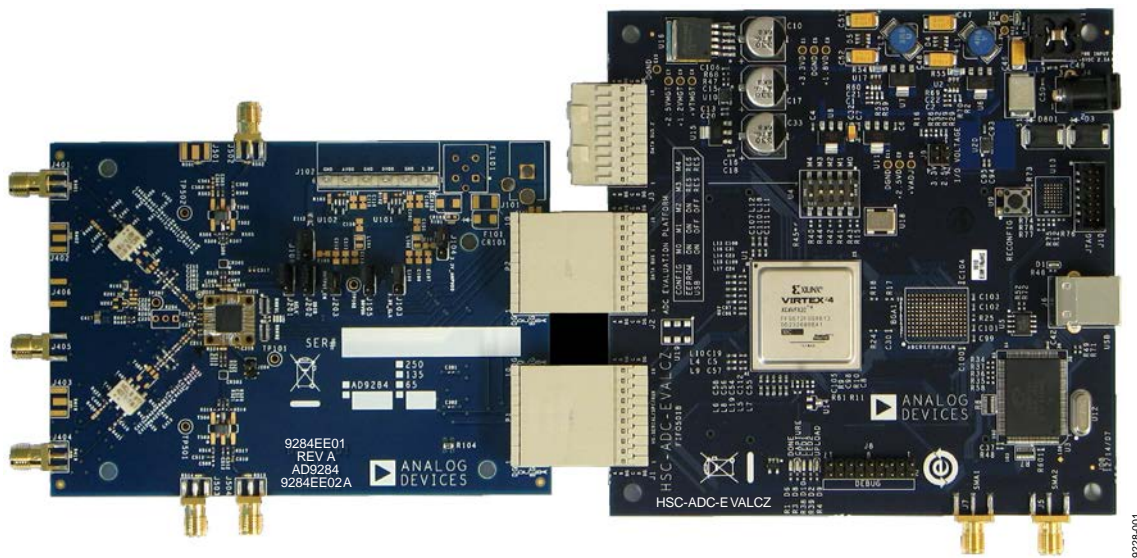
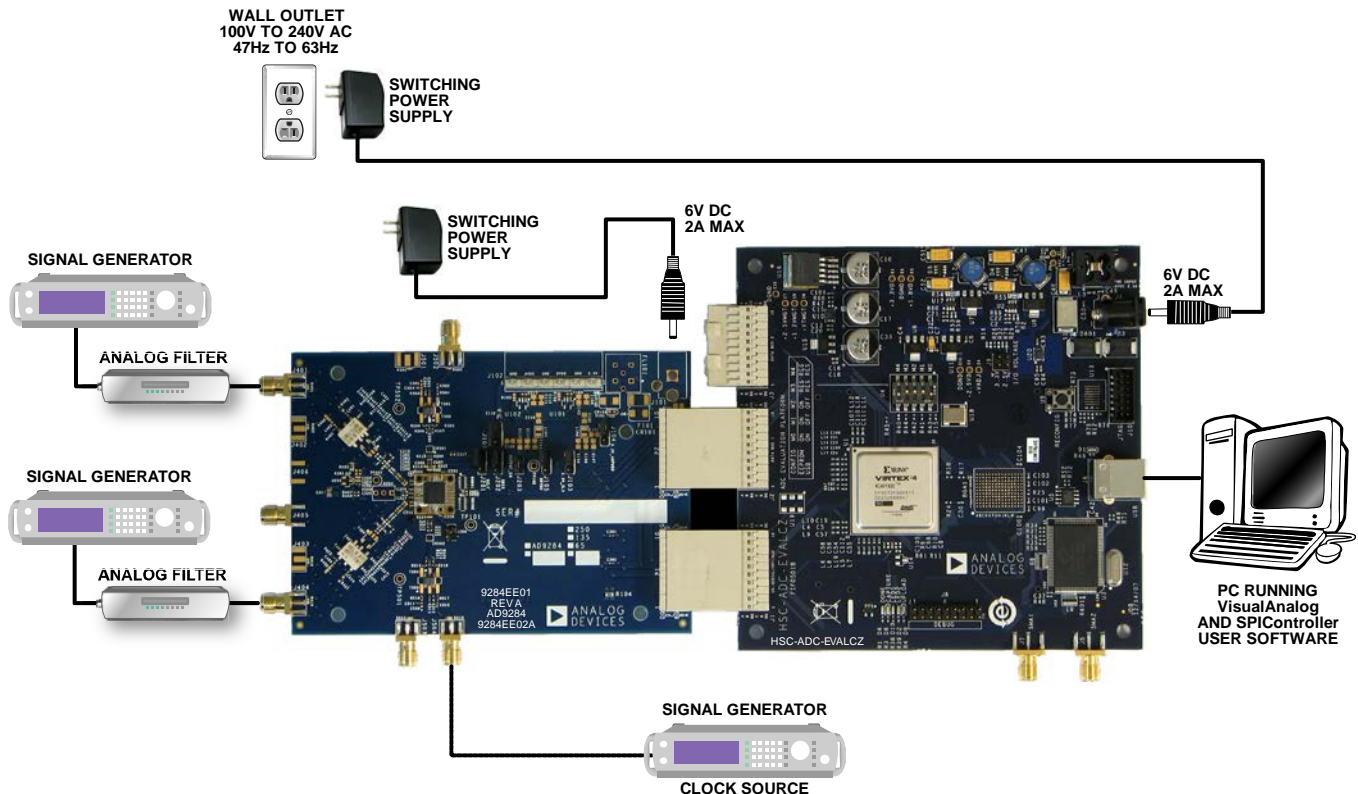

Figure 1. **AD9284** Evaluation Board and HSC-ADC-EVALCZ Data Capture Board
Figure 2. Evaluation Board Connection
The **AD9284** evaluation board provides all of the support circuitry required to operate the **AD9284** in its various modes and configurations. Figure 2 shows the typical bench characterization setup used to evaluate the ac performance of the **AD9284**. It is critical that the signal sources used for the analog input and clock have very low phase noise (<1 ps rms jitter) to realize the optimum performance of the signal chain. Proper filtering of the analog input signal to remove harmonics and lower the integrated or broadband noise at the input is necessary to achieve the specified noise performance.
1. Connect the evaluation board to the data capture board, as shown in Figure 1 and Figure 2.